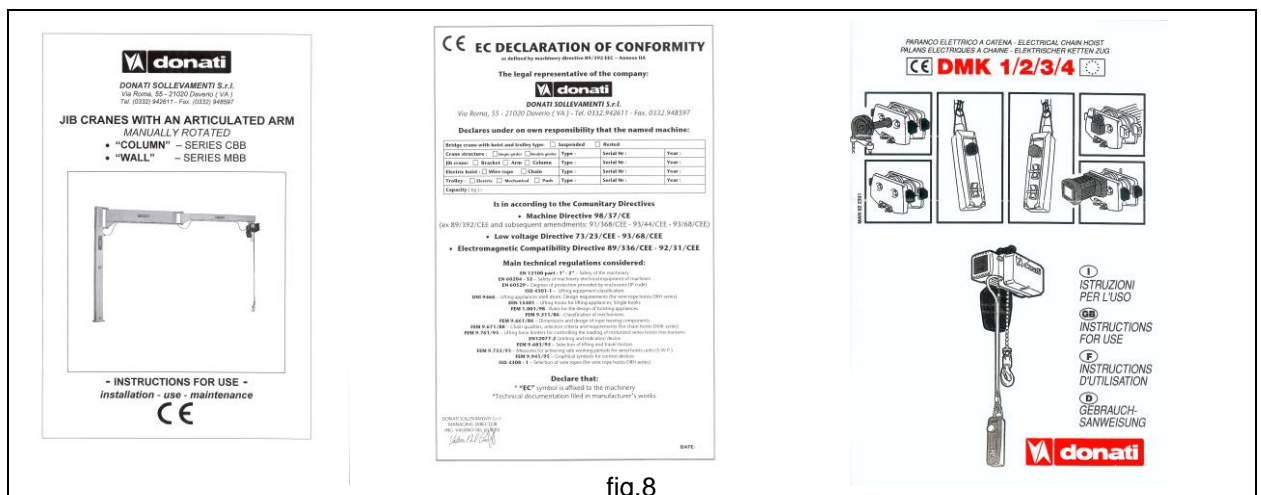

fig.8
- Technical/legal documentation which comes with the jib crane includes (fig 8):